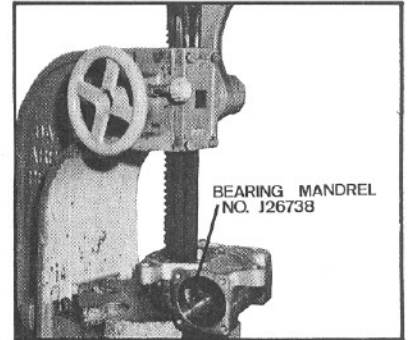

Figure 43
- 10. Only if the housing bearing (21) race is damaged, or if one or more of the rolls is lost, should you replace the housing bearing. Remove the bearing in the following manner: Using bearing mandrel (special tool) J26738, apply pressure from the side cover opening and press the bearing out through the trunnion cover opening, away from the cylinder bore (FIG. 43). Maintain a good, square contact between the housing and press base to avoid damaging the housing bearing bore.